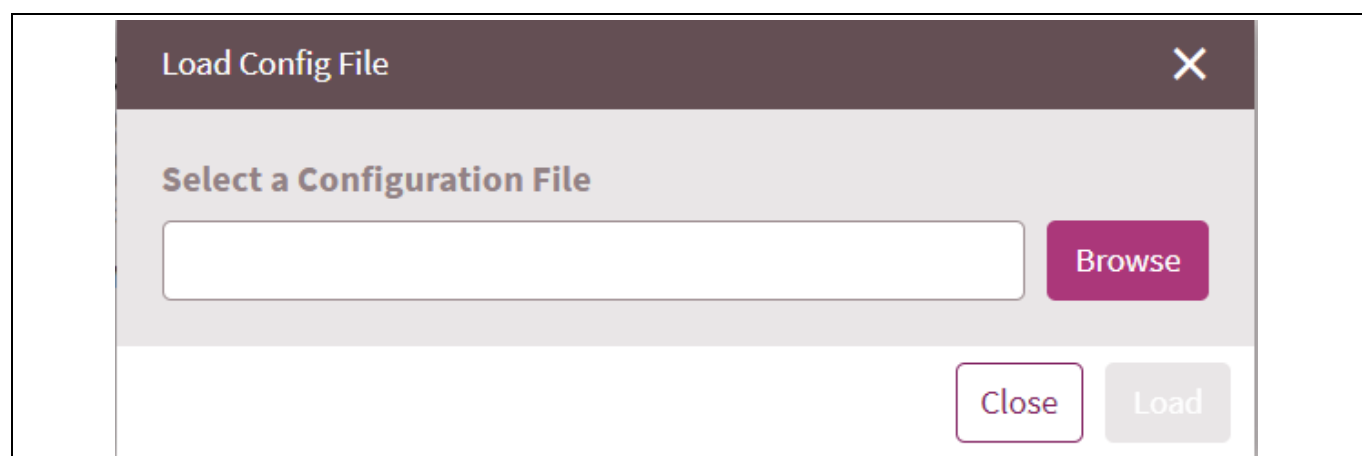

Figure 35 Click on “Browse” to select the necessary configuration file
- Click on “Browse” and then select the .txt file that needs to be loaded onto the device, as shown in Figure 35.